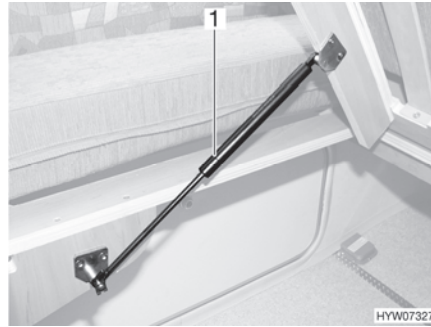

Fig. 66 Fixed bed
■ Lift slatted frame. The gas-pressure springs (Fig. 66,1) hold the slatted frame open.